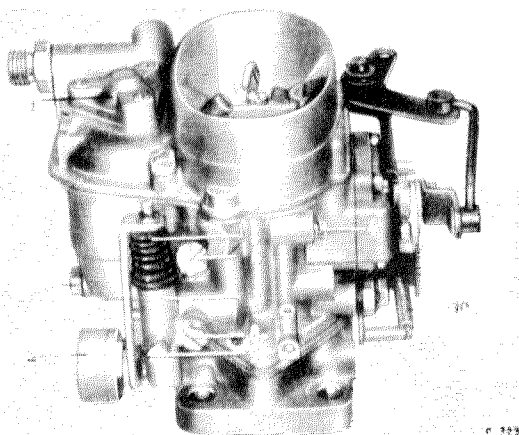

Fig. 07 — 3/3
7. Unscrew the main jet plug with main jet of Stage 1 (10), the pump jet (9), the idle fuel jet of Stage 1 (7) and the grub screw which is installed instead of the idle fuel jet of Stage 2 (Fig. 07 — 3/2).
8. Unscrew the main jet (6) of Stage 2 and the starter fuel jet (2) (Fig. 07 — 3/3).
9. Unscrew the hexagon nut with which the lever of the counterweight is fixed to the vacuum valve. Then remove the lever, together with counterweight and oil shock-absorber. If necessary, remove the cotter pin with which the oil shock-absorber is fixed to the lever of the counterweight, and take off the oil shock-absorber. (Be careful not to lose the two washers.) (Fig. 07 — 3/3.)